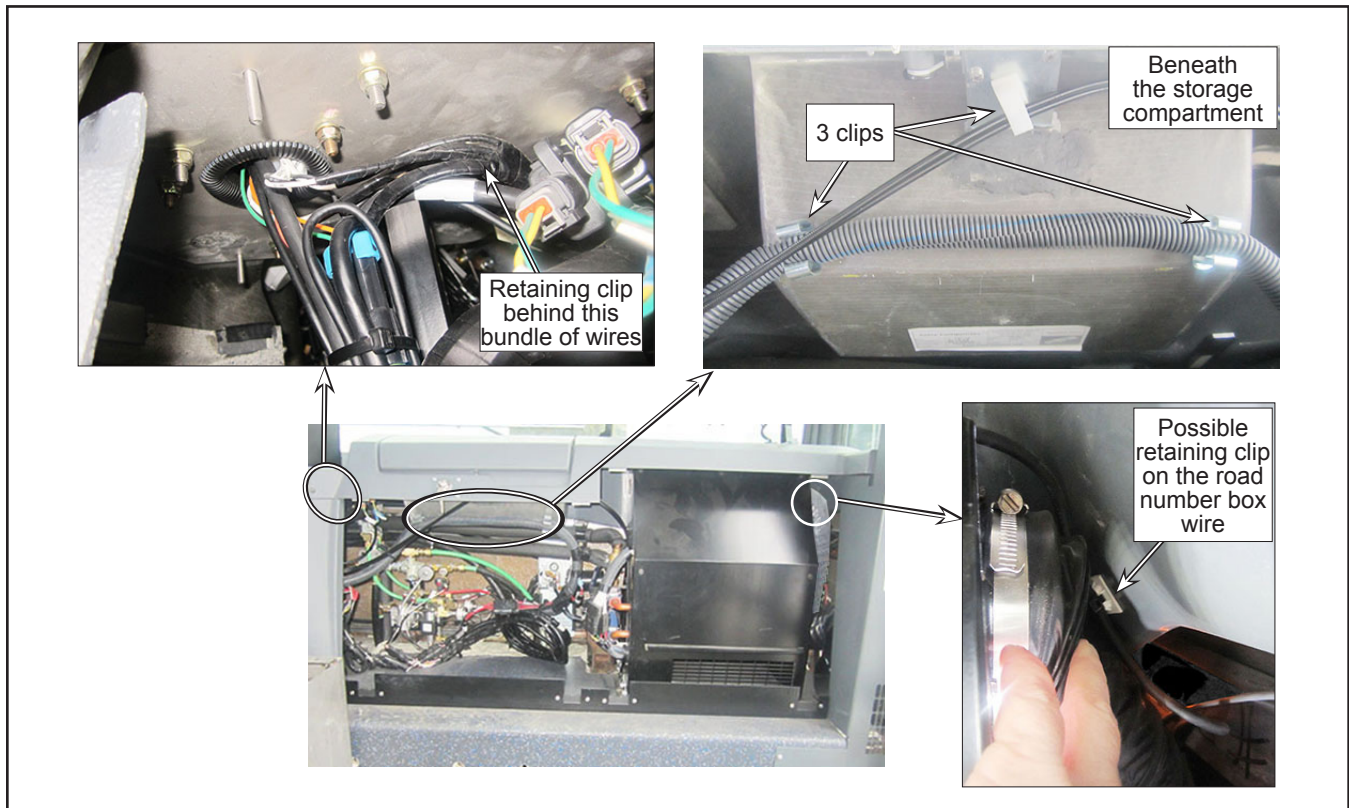

Figure 7 - Approximate Location of Tie Wraps
- 2.4. Release the electrical harnesses that are attached to the right side of the dash (cut the tie wraps and remove the harness from the clips). Where necessary, unplug any connectors. See Figure 7.
- 2.5. Slacken the road number box harness. See Figure 7.